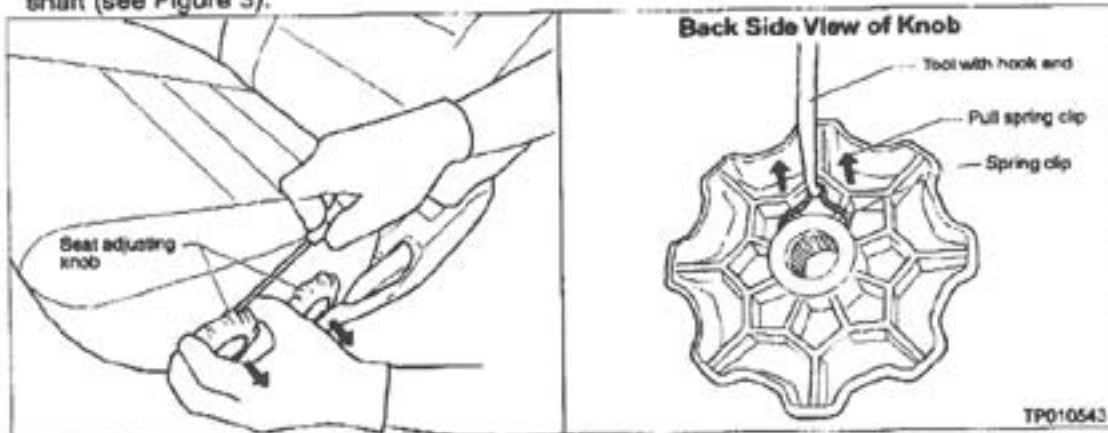

Figure 3
5. Remove both seat adjusting knobs. A spring clip at the back of the knob fastens it to a shaft. Use a tool with a hook end and pull the spring clip. Then, pull the knob off the shaft (see Figure 3).